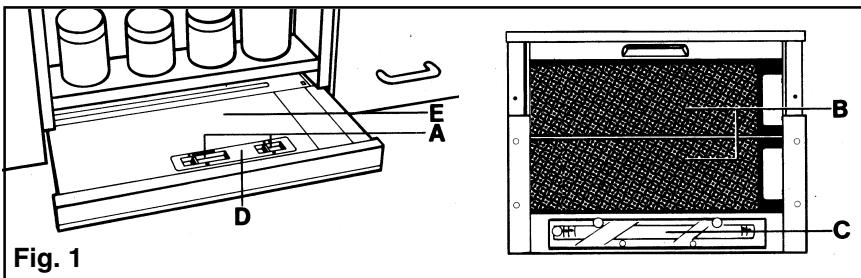

Fig. 1
Déplacement du tiroir (E - Fig. 1) - Fig. 15
- The switches are mounted on the upper right side of the visor (**Fig. 1 - E**).